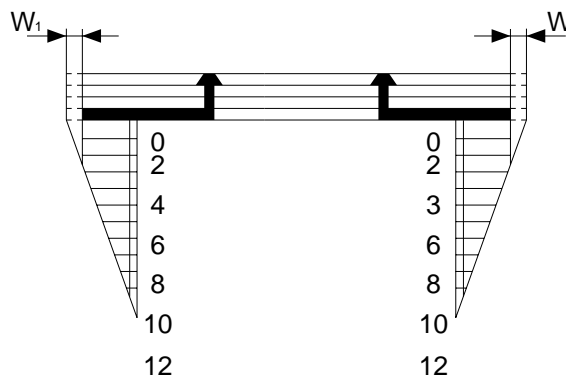

Figure 11-220
- 5) Check the image, and measure the non-image width shown in Figure 11-220.